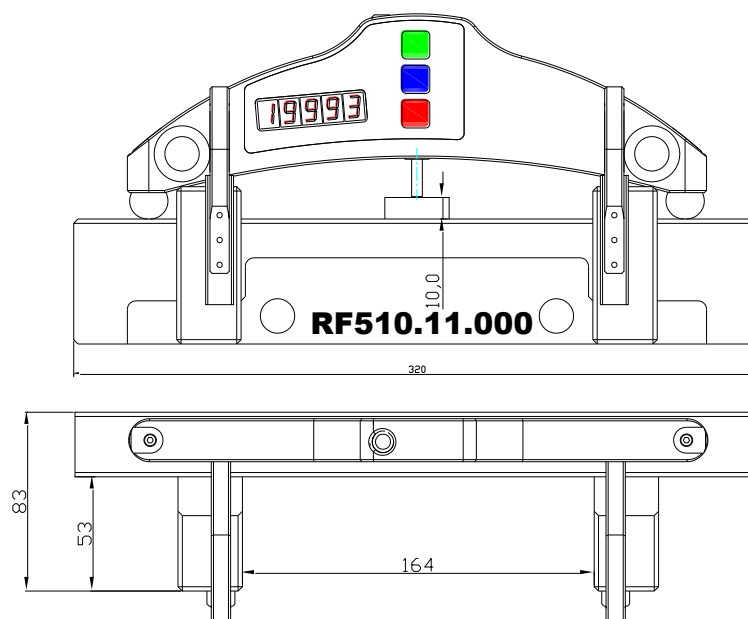

Figure 4
- Calibration plate with the deviation from flatness less then $\pm 0,5 \mu\text{m}$ for 250 mm length (or Flat block RF510.11.000, figure 4);